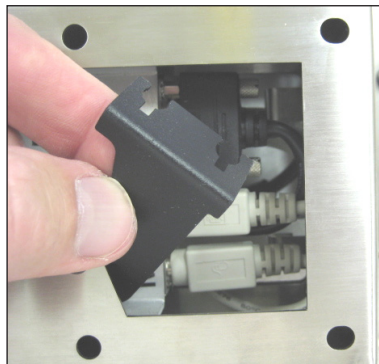

FIGURE 5
- Rotate retention bracket as shown in Figure 5.